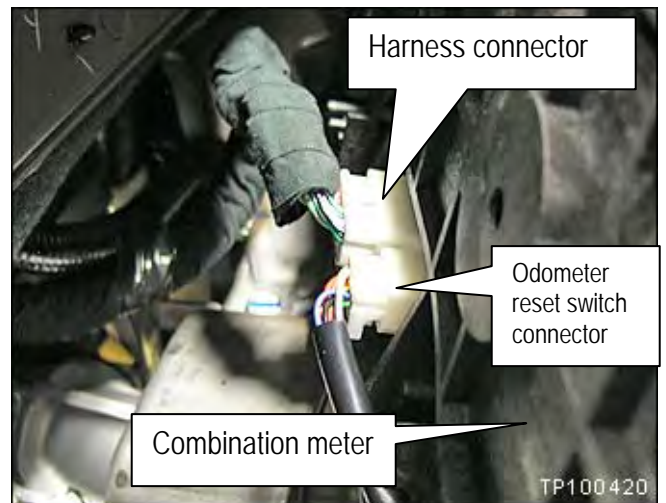

Figure 16
- d. Disconnect the harness connector shown in Figure 16.